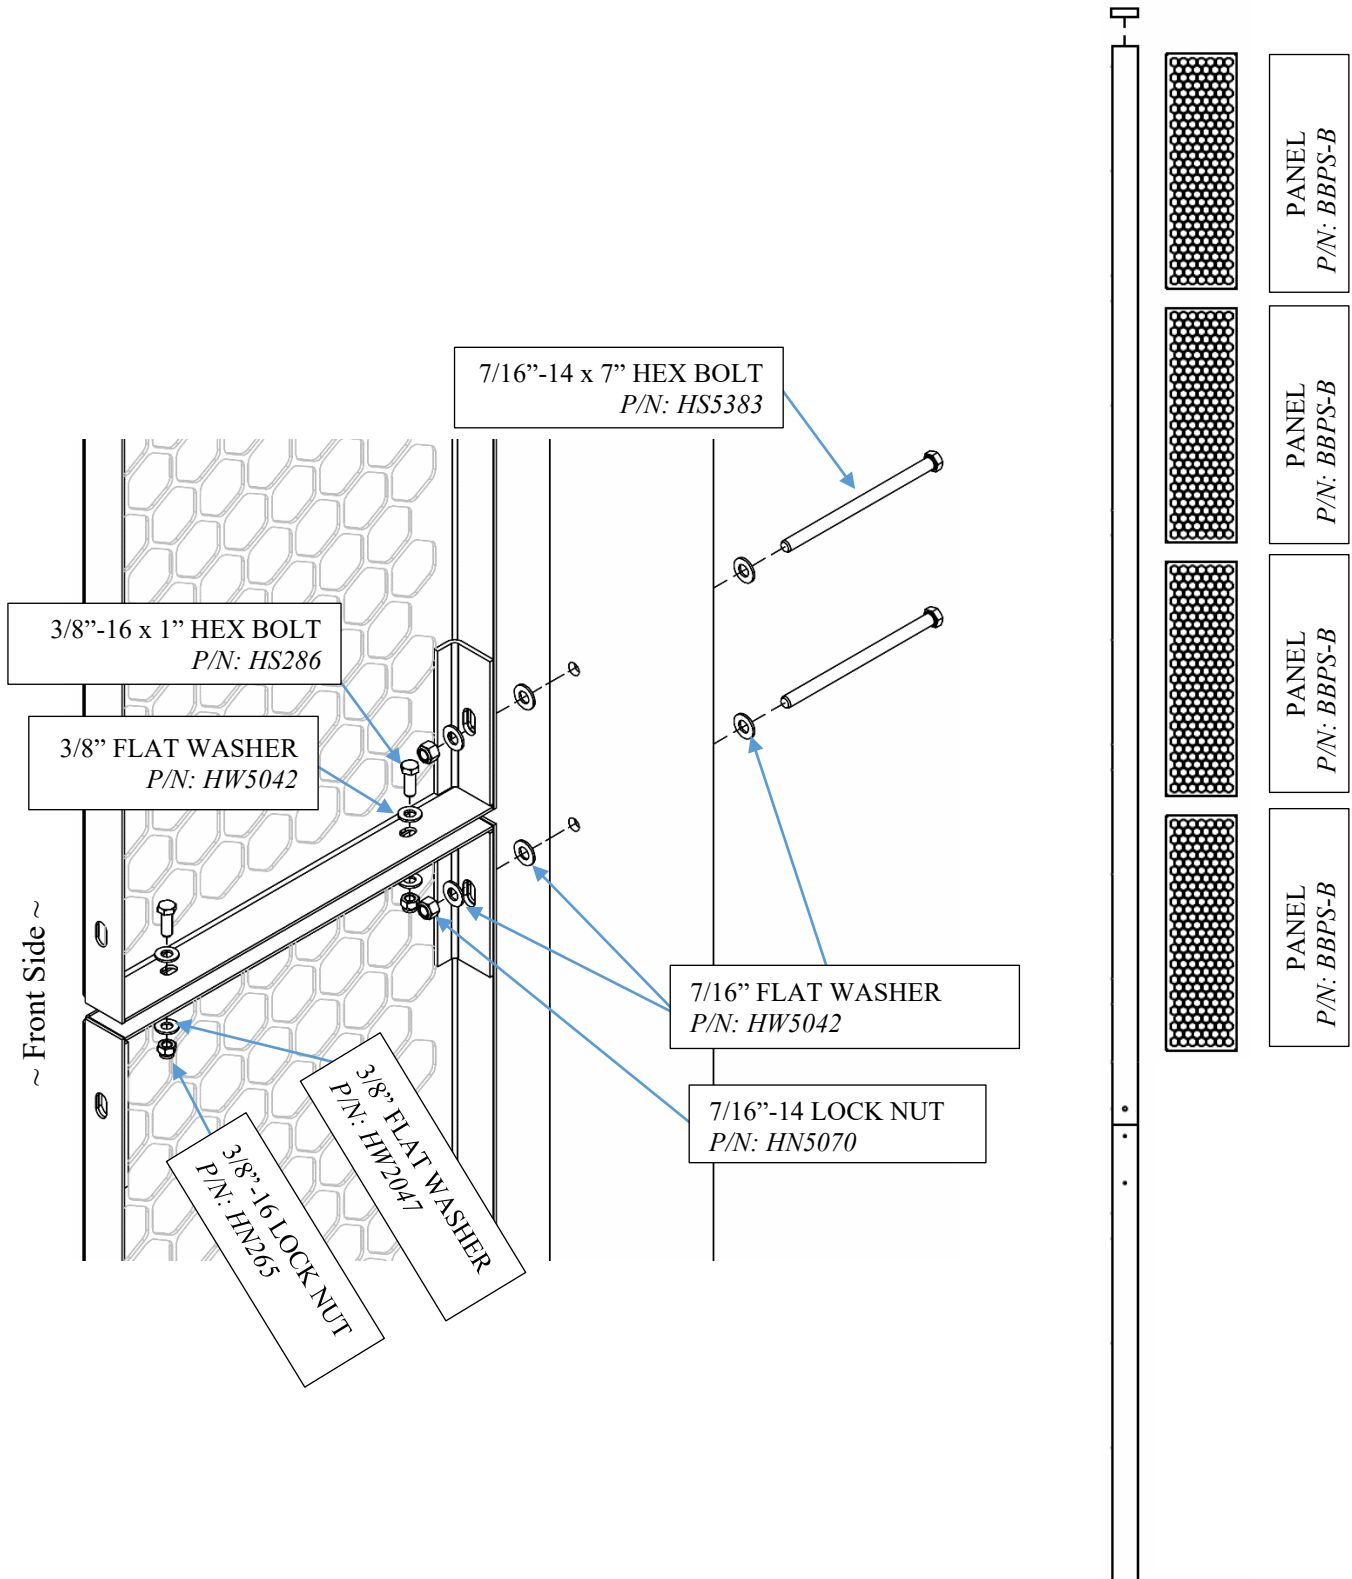

FIGURE: 5
1. Attach all the wing panels per figure 5. Orient the panels so the front side is facing the field. (Note image shown is from the back side of panels.)